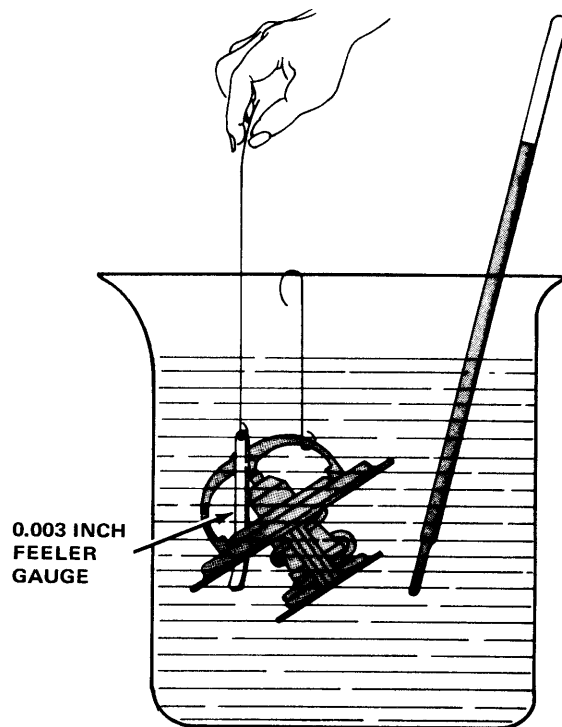

Fig. 2-7 Testing Thermostat
- (1) Remove thermostat.
- (2) Insert 0.003-inch feeler gauge, with wire or string attached, between valve and seat (fig. 2-7).
- (3) Submerge thermostat in a container of pure antifreeze, suspended so it does not touch sides or bottom of container.